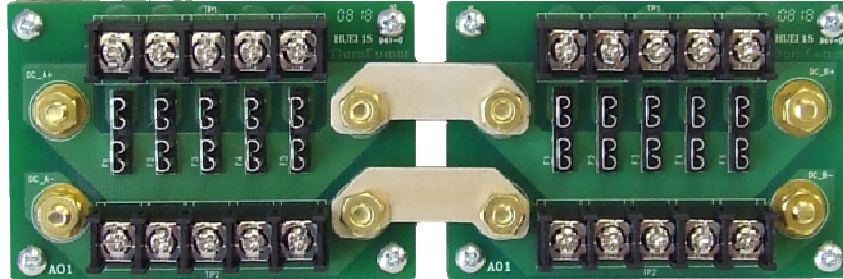

Figure 1
2. Install the jumpers as shown in Figure 1.
Figure 1 shows the DB-5-J jumpers properly installed between two DB-5 distribution blocks.